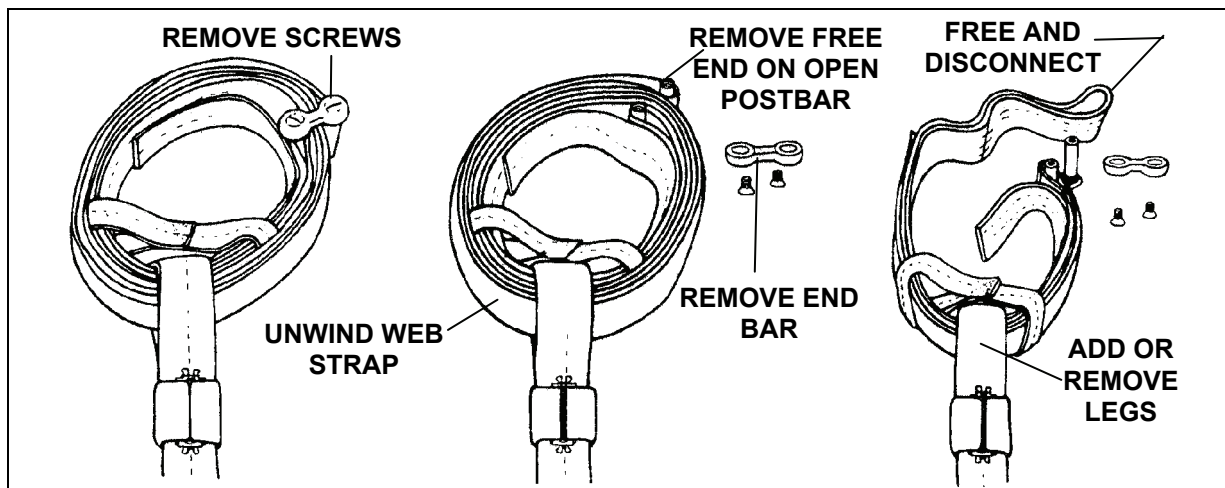

Figure 6-27. Ring Taken Apart
- Remove the two screws and end bar from the web ring connector link (Figure 6-27).